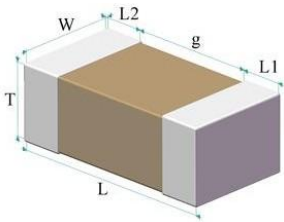

Fig.1 Structure & Dimension
| 2   | Size Code                                 | See Fig.1 and ② Size Code                                                                                                                                                                                          | Measuring by gages which precision is not less than 0.01 mm.                                                                                                                                                                                                                                                                                                                                                                                                                                     |